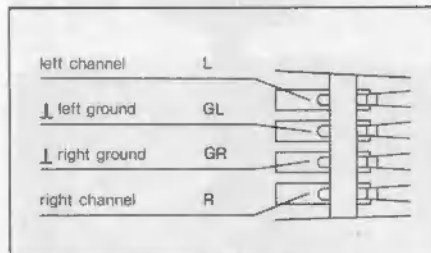

Fig. 13
3. The connections on the cartridge holder and cartridge are marked (Fig. 13). Connect the leads with the appropriate terminal pins on the cartridge.